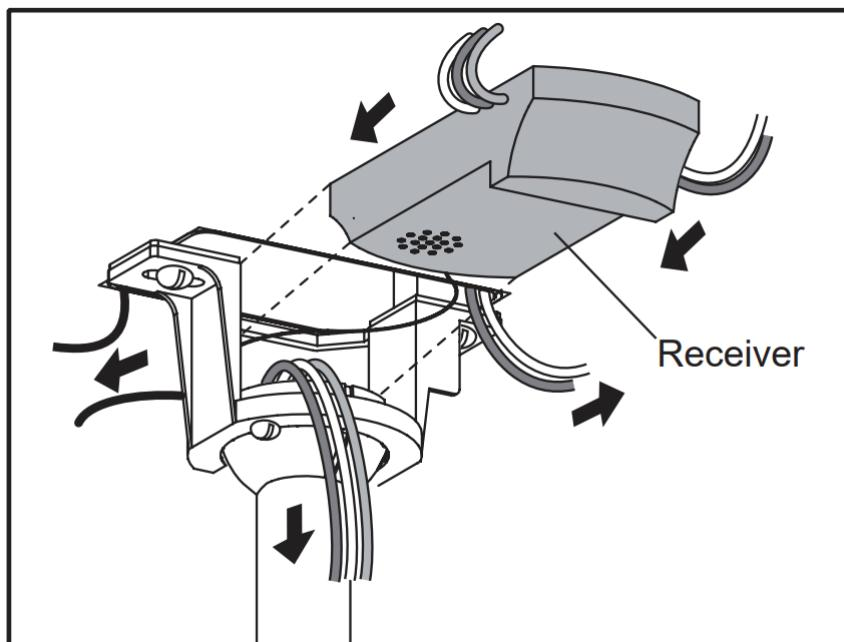

Fig. 15
12. Carefully insert the Remote Receiver above the hanger ball in the remainder spacing in the mounting bracket. Take care not to damage or loosen any of the wiring. (**Fig. 15**)